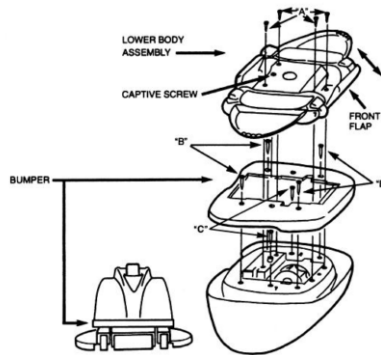

Figure 13
- e) Locate and loosen the captive screw behind the throat in the center of the cleaner (See Figures 13, 14 & 15).
- g) Remove four (4) "A" screws (See Figure 13).
- h) Lift the lower body assembly off of the Hayward Blu cleaner (See Figure 13).
- i) Remove four (4) "B" screws (See Figure 13).